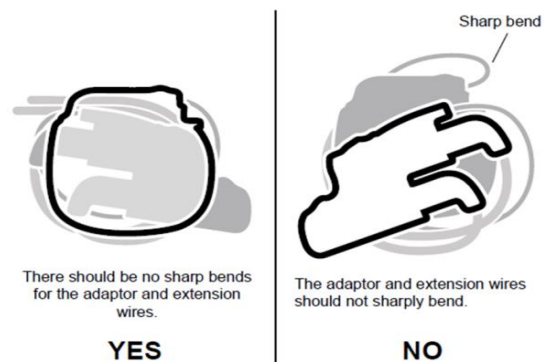

Figure 10. Ensure there are no sharp bends in any of the wires.
1. Place the pocket adaptor behind the neurostimulator. Coil the adaptor wire and the excess extension wire behind the adaptor, ensuring there are no sharp bends in any of the wires (Figure 10).